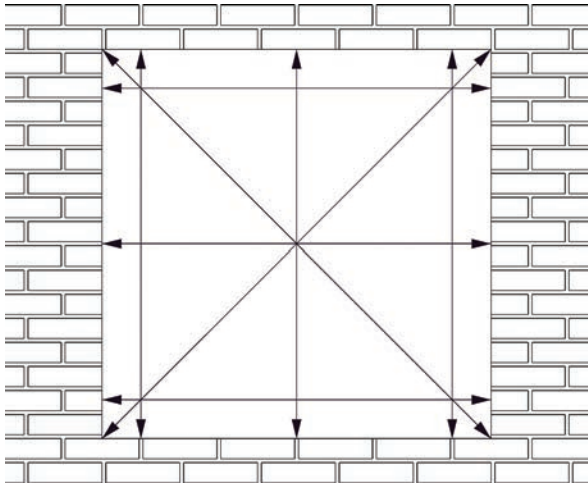

fig.1 Measurement of openings
- a check should be made to confirm there are no structural defects to the aperture. Openings are measured in line with the pattern shown in Fig.1